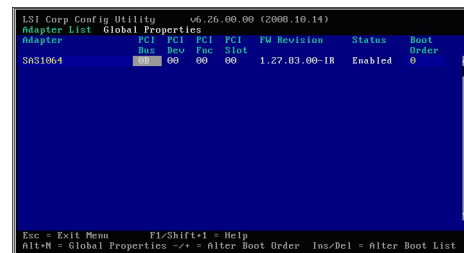

Figure 16. Adapter List screen showing the Onboard SAS Controller.
1. When the <<<Press Ctrl-C to start LSI Logic Configuration Utility>>> prompt displays during system boot, press Ctrl+C to enter the LSI Logic Configuration Utility. The Adapter List screen displays, similar to Figure 16.